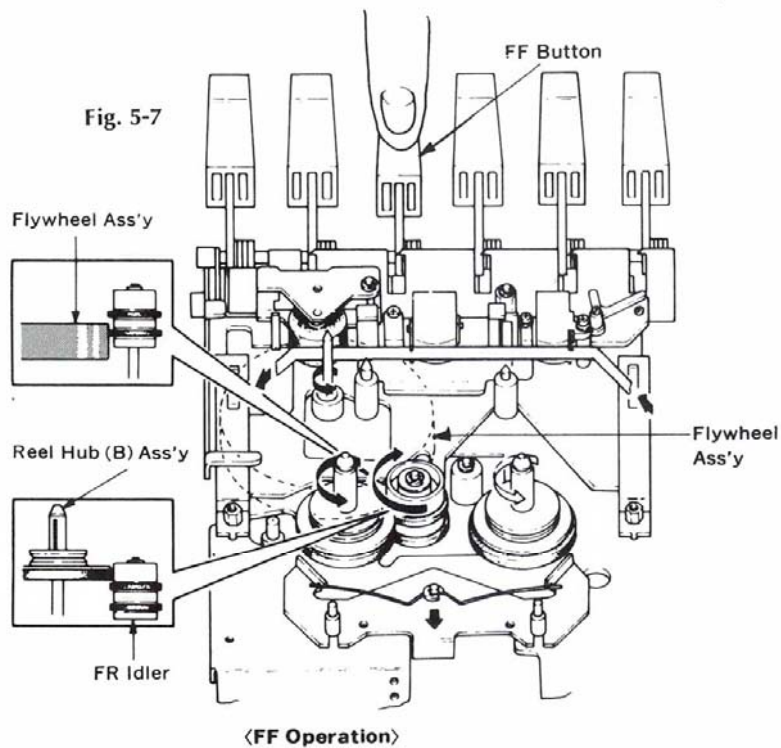

Fig. 5-7
3) Fast Forward & Rewind Operation (See Fig. 5-7, 5-8, 5-9, 5-10 & 5-11)